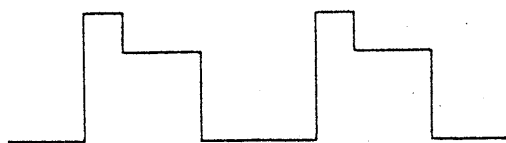

Figure 2.1.4
- i. If the input power to the load exceeds the maximum allowable input power (150 W) while operating in the Switching mode, the Overpower Protector will limit. The switched current in this case will be as shown in Figure 2.1.4. As the wave shape indicates, when excessive power is applied, the Load will limit current to 30 A for the majority of the time that the 150 W limit is exceeded. Erroneous meter readings will result as well.